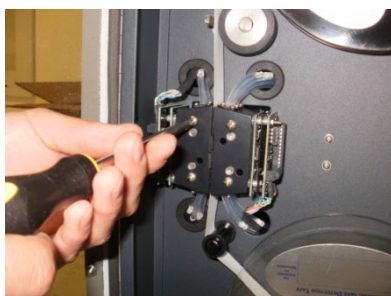

Figure 1
- 3) Remove the optic block covers and the four screws holding in the optic blocks. (Figure 1)